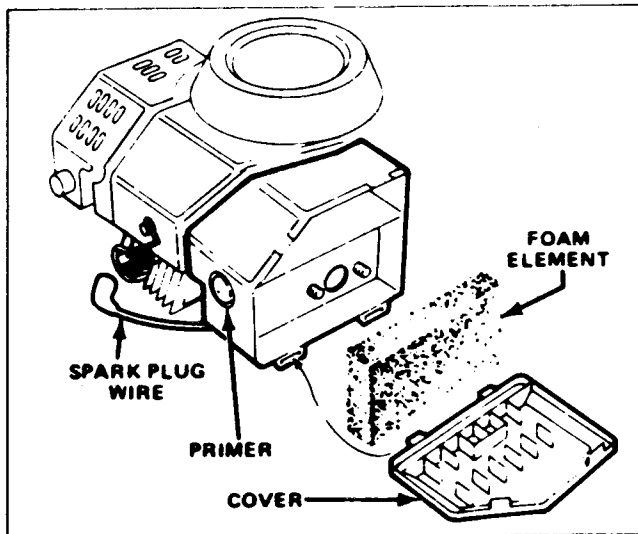

Figure 2
1. Stop the engine and pull the wire off the spark plug. See Figure 2.
2. Lift tabs at the top of the air cleaner cover and pivot cover down as shown in Figure 2. Clean the cover thoroughly.
3. If the outside of the foam element is dirty, remove it from the air cleaner body. See Figure 2. Clean thoroughly.
1. Stop the engine and pull the wire off the spark plug. See figure 2.